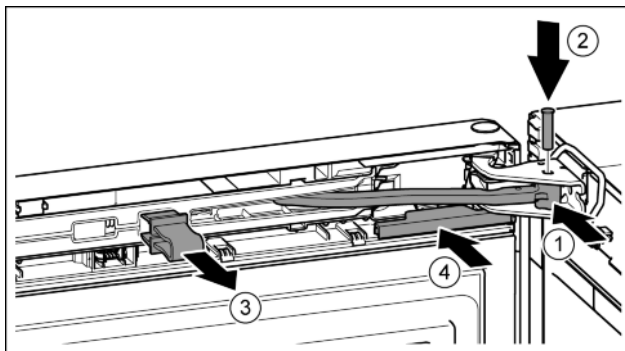

Fig. 41
- ▶ Turn the hinge in the bearing bracket. Fig. 41 (1)
- ▶ Insert the bolt in the bearing bracket and hinge. Make sure that the catch mechanism is sitting correctly in the groove. Fig. 41 (2)
- ▶ Remove the locking device. Fig. 41 (3)
- ▶ Slide on the cover. Fig. 41 (4)